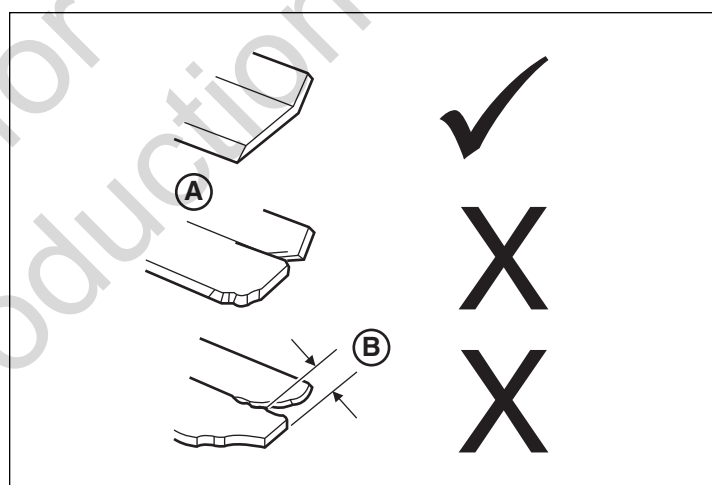

Figure 14. Inspecting the Mower Blade Air Lifts
- B.) The air lifts are excessively eroded (**A & B**, **Figure 14**) and the notch (**B**) is .25" (6,35 mm) deep or greater.